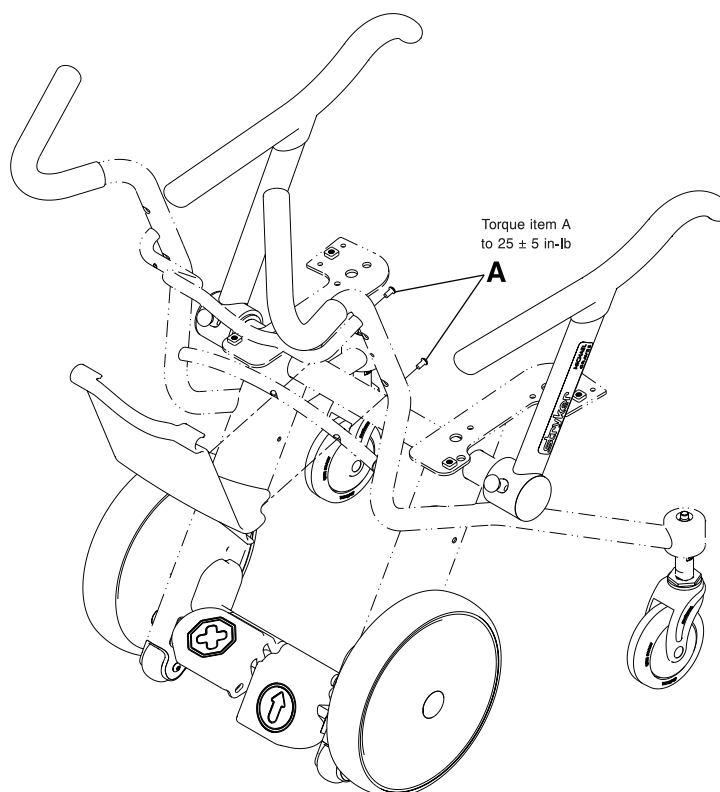

Figure 22: Chart holder replacement
3. Using a 5/32" hex wrench, remove the two button head cap screws (A) that secure the bottom of the chart holder to the chair frame (Figure 22 on page 39). Save the screws. When reinstalling the screws, use a 3/8" drive torque wrench to torque the screws to 25 ± 5 in-lb.